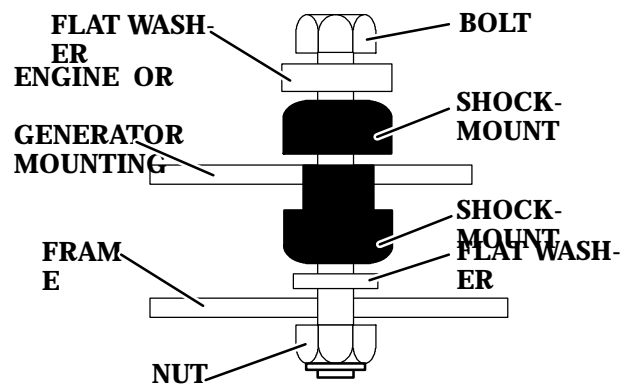

Figure 4-9. Shockmount Installation
2. Install shockmounts and flat washers as shown in Figure 4-9.